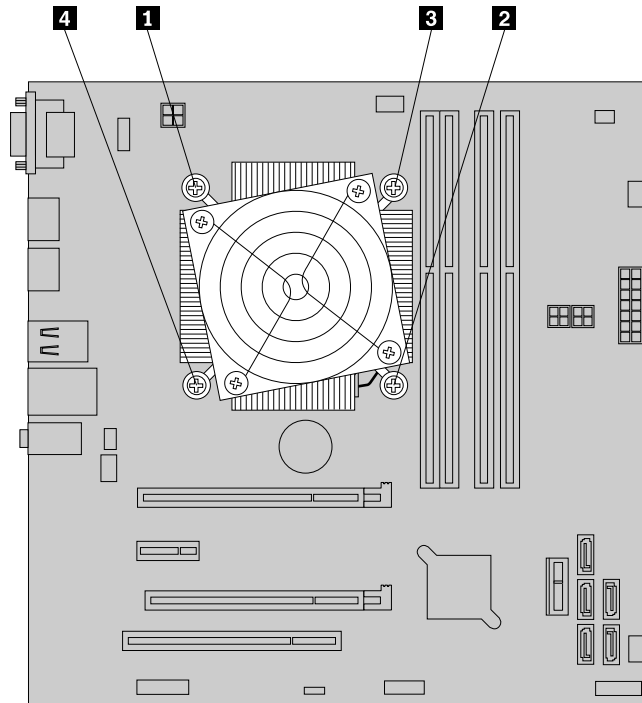

Figure 58. Removing the heat sink and fan assembly
9. Follow this sequence to install the four screws to secure the new heat sink and fan assembly. See Figure 58 “Removing the heat sink and fan assembly” on page 74.